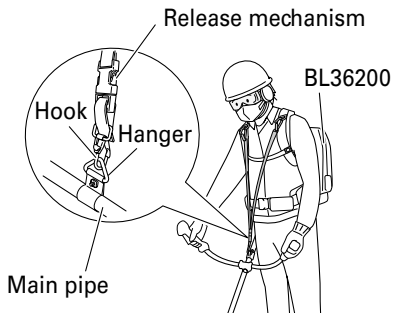

Fig. 14
- (1) Hook the hanger belt to the BL36200 harness (two places) as shown in Fig. 14. Then hook the belt to the hanger of the main pipe (one place). Adjust the hanger belt to a suitable length.